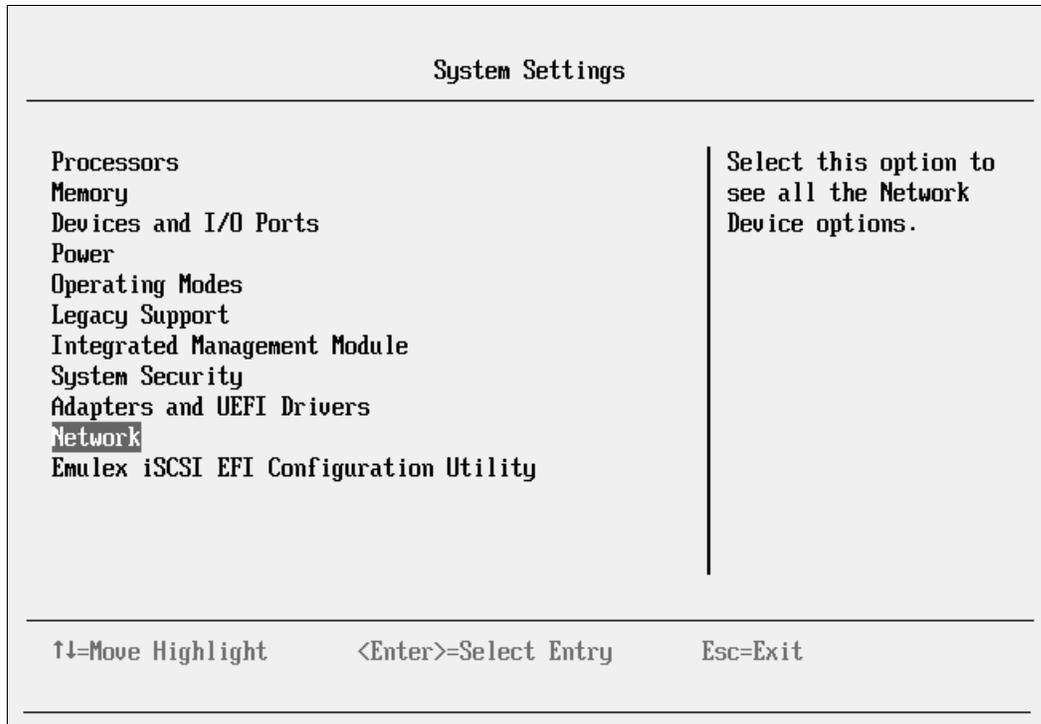

Figure 9-2 System Settings panel
4. In the System Settings panel (Figure 9-2), select **Network**.